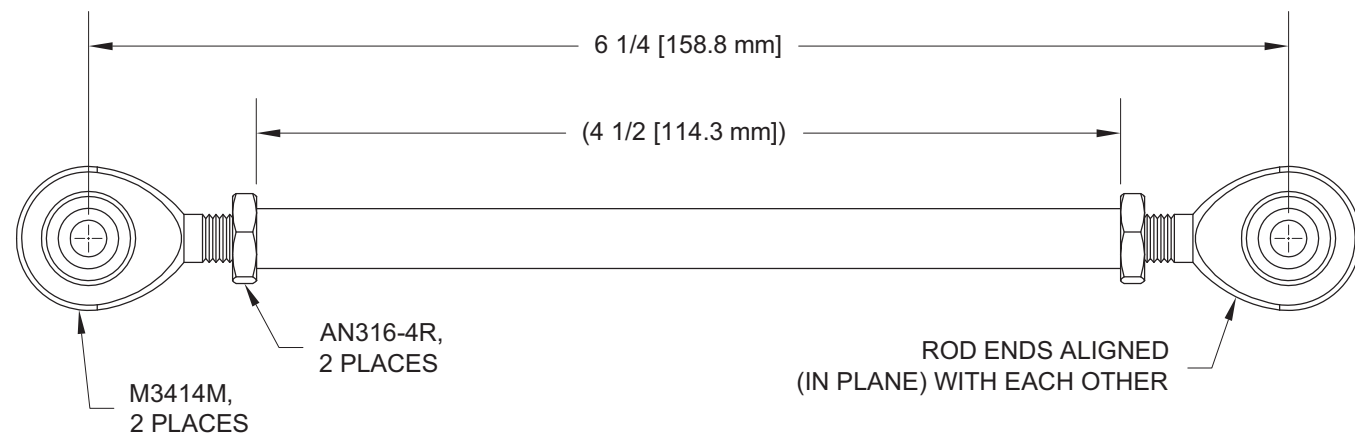

FIGURE 3: PITCH SERVO PUSHROD ASSEMBLY
Step 3: Assemble the F-1292 Pitch Servo Pushrod and hardware as shown in Figure 3 to make the Pitch Servo Pushrod Assembly.